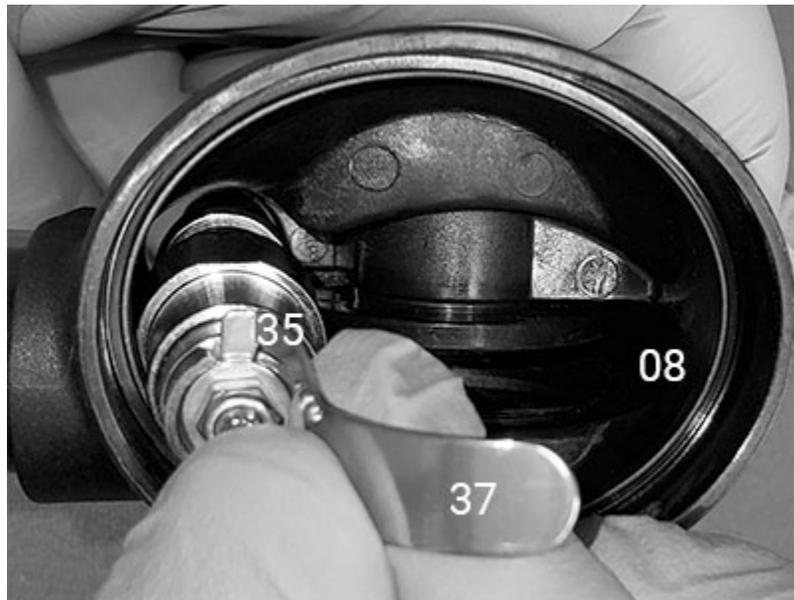

Fig. 48
17. Insert a 3/16" hex key into the Inlet Stem (28), and while depressing the lever, fully unscrew the Crown Orifice until it stops.
18. Locate the molded flats inside the Main Body (08) along the bore for the Valve Housing/Inlet Stem assembly, and then find the corresponding flats on the assembly. With the Lever facing away from the mouthpiece opening, push the assembly into the bore by aligning the two sets of flats - Fig. 48.